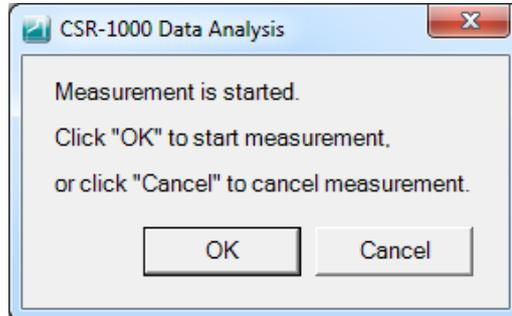

Fig. 7-7
When you select the **[Measure after setting conditions (P)]** submenu from **[Measurement (M)]** in the menu bar and click the **[OK]** button on the **[Set measurement conditions]** window, or if you select the **[Execute measurement (E)]** submenu from **[Measurement (M)]** in the menu bar, the dialog for starting measurement (Fig. 7-7) appears.